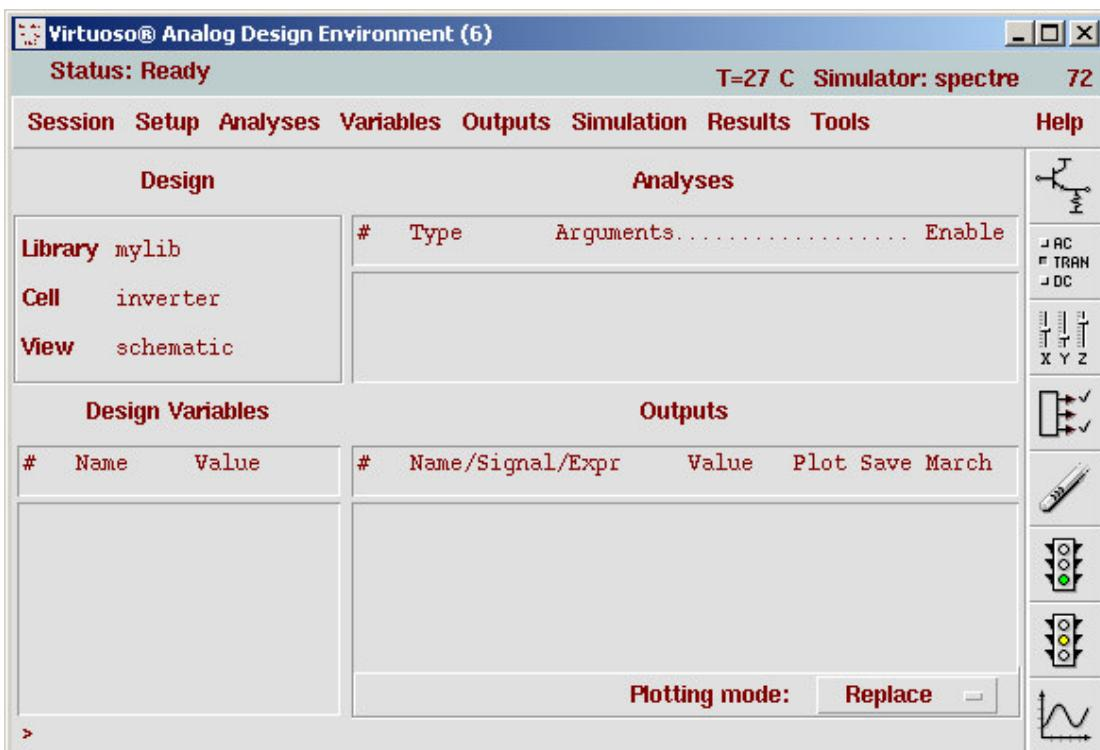

Figure 14. Virtuoso Analog Design Environment
1. In the **Virtuoso Schematic Editor** window, click **Tools**, then **Analog Environment**. The analog environment will open another schematic view and will probably re-organize all your windows. Most importantly, the **Virtuoso Analog Design Environment** window will pop up as in Figure 14.